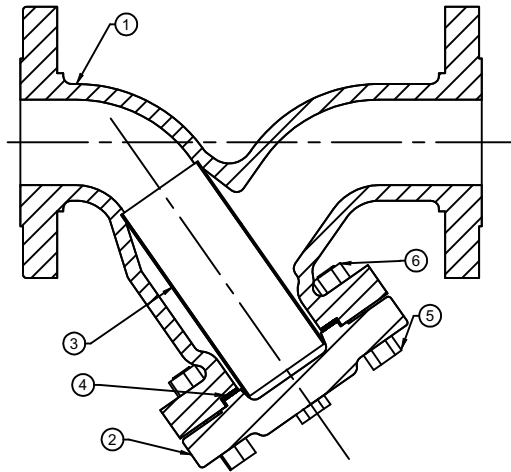

Figure 1 : Forbes Marshall Cast Strainer
7.3. Procedure to clean or replace strainer screen: [Refer figure 1]